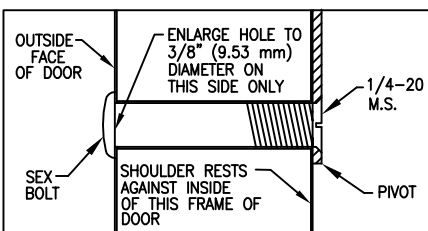

FIGURE 3
NOTE: USE TWO (2) THRU BOLTS (SEX BOLTS) FURNISHED WITH EACH PIVOT. USE AS REQUIRED FOR HOLLOW METAL, OR MINERAL CORE DOORS (SEE FIG. 3). DRILL 1/4" (6.35 mm) HOLE THROUGH DOOR. ENLARGE HOLE ON SIDE OPPOSITE PIVOT ONLY TO 3/8" (9.53 mm) DIAMETER FOR SEX BOLT.